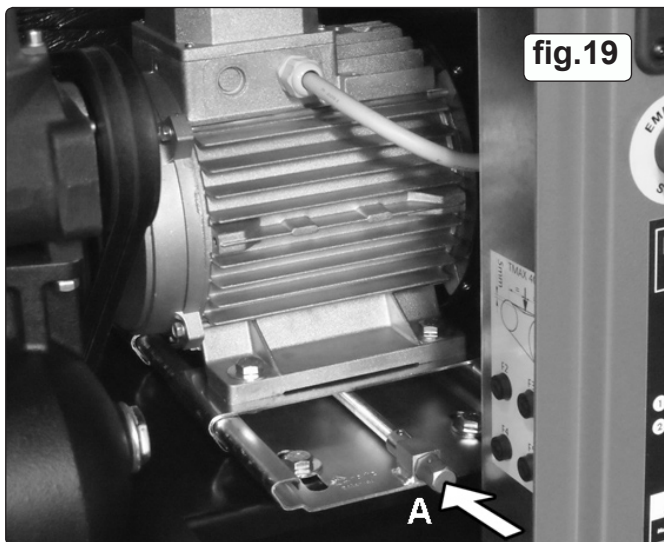

fig.19
The belt must give by roughly 5mm. Refer to fig.19, turn the nut 'A' to tighten the belt. Apply a maximum force 40N. An excessive force could damage the bearings in both the motor and the screw unit!
- 7.7.2 Referring to fig.19, turn the nut 'A' to slacken the belt. Slide the belt out, replace it with a new one and tighten as described in the previous section.